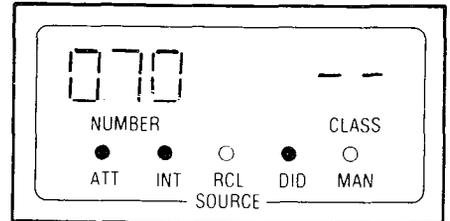

Fig. 352-2
- SOURCE display (Fig. 352-2) shows number of calling trunk